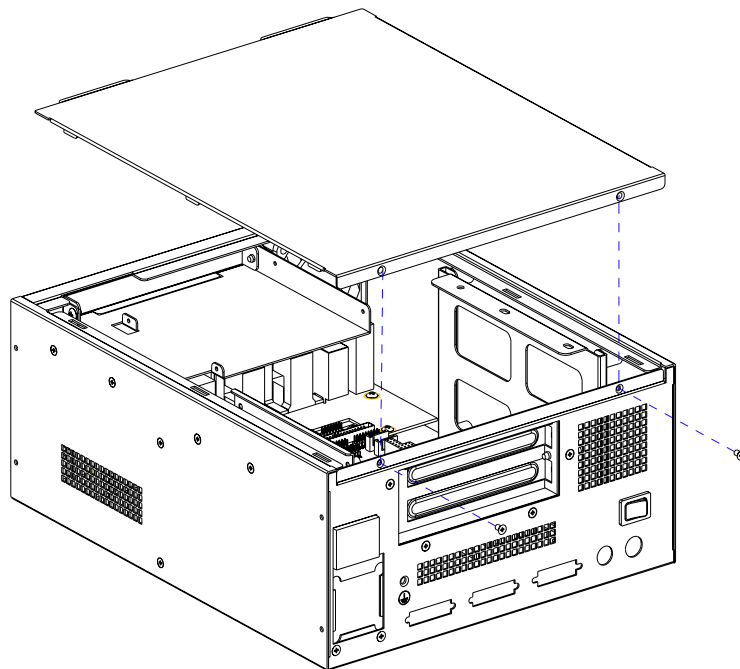

Figure 2.1 Removing the top cover
2. Pull the top cover backwards and then lift it up. (see Figure 2.1)